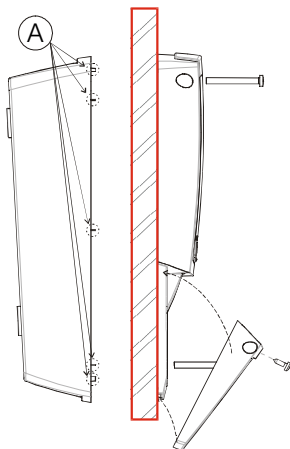

Fig. 6
4. Cut from the back part of the Cool Mate the teeth indicated in Fig. 6, A.